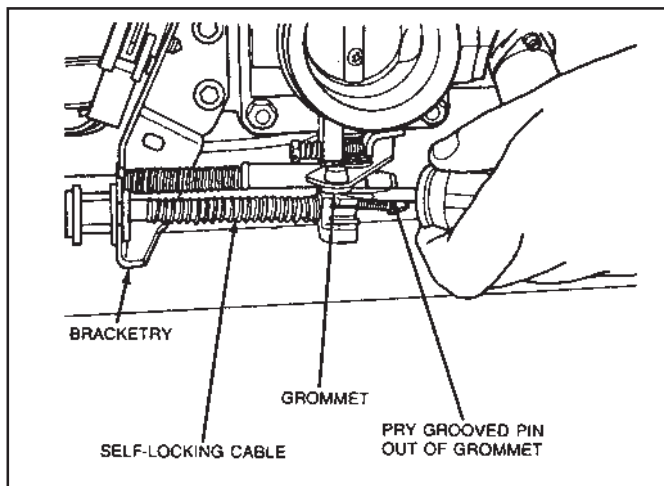

Figure 25
- 7.9 Remove gauge tool and pry grooved pin out of grommet on throttle lever. (See Fig. 25.)